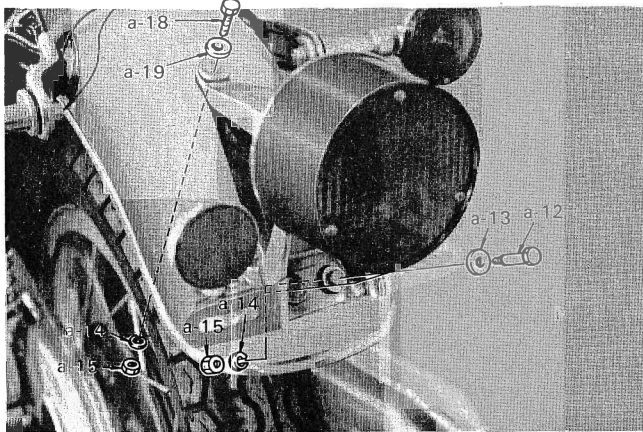

Fig. 42
35. Secure the front part of the license bracket using the bolt (a-18), washer with cover (a-19), spring washer (a-14), and nut (a-15) contained in the vinyl bag (2) (Fig. 42)
36. Secure the rear part of the license bracket using two shoulder bolts (a-12), plain washers (a-13), spring washers (a-14) and nuts (a-15) contained in the vinyl bag (2). (Fig. 42)